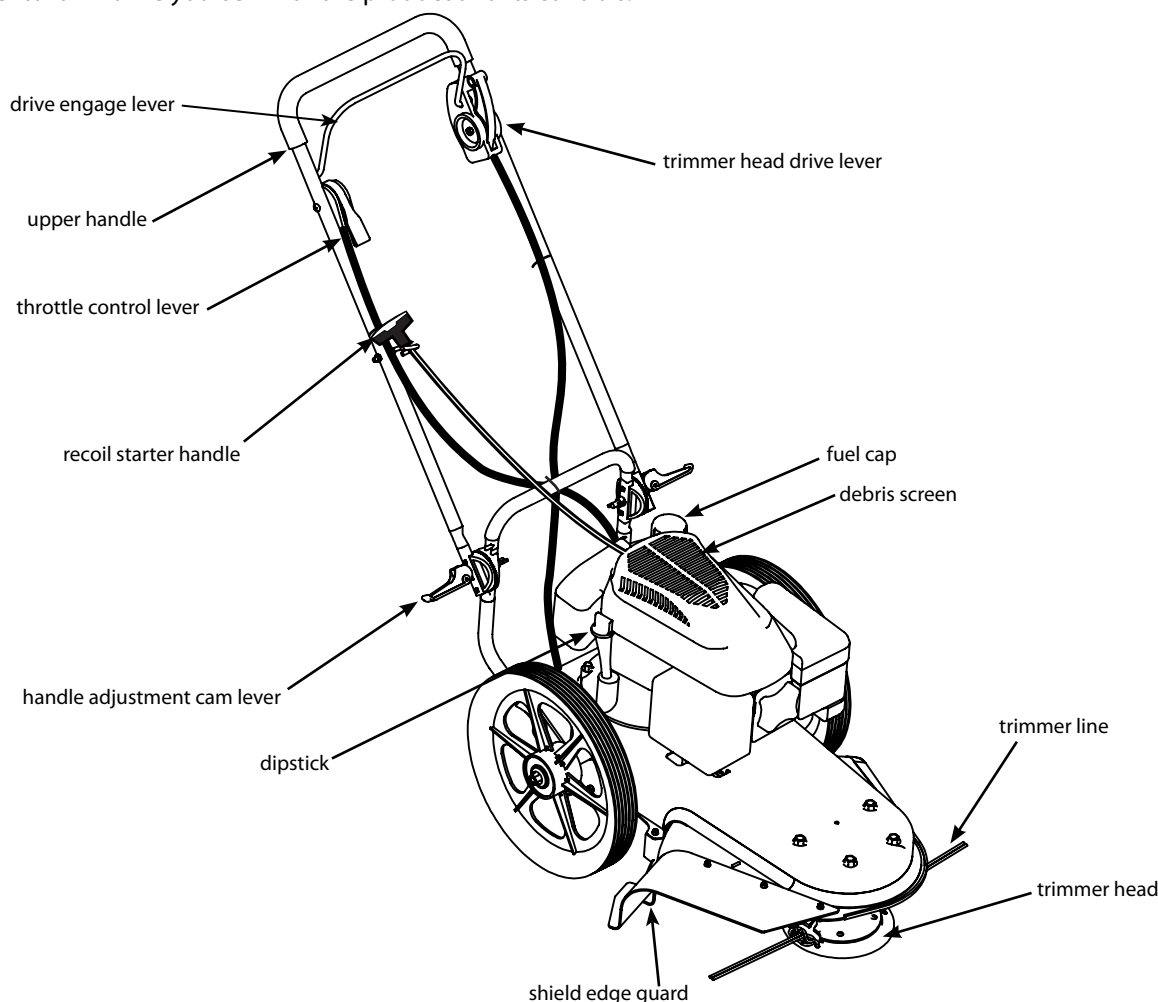

Figure 1 : Your new string trimmer
1. Before each use, remove debris from the debris screen. **SEE FIGURE 1 IN "FEATURES" SECTION.** Debris can cause the engine to overheat. Wipe the debris screen with a cloth or paper towel.